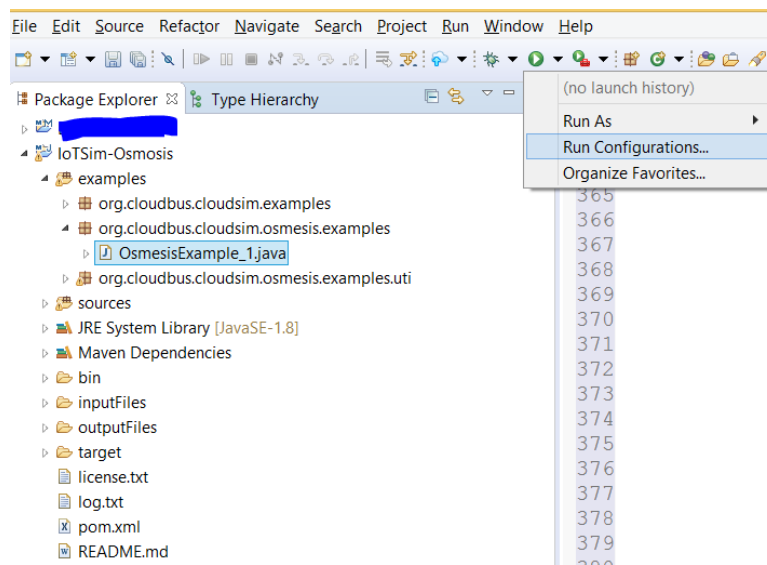

Figure 4.4
**Step 1:** Select OsmosisExample\_1.java -> click on the small down arrow next to the play button and select Run Configurations (see Figure 4.4).